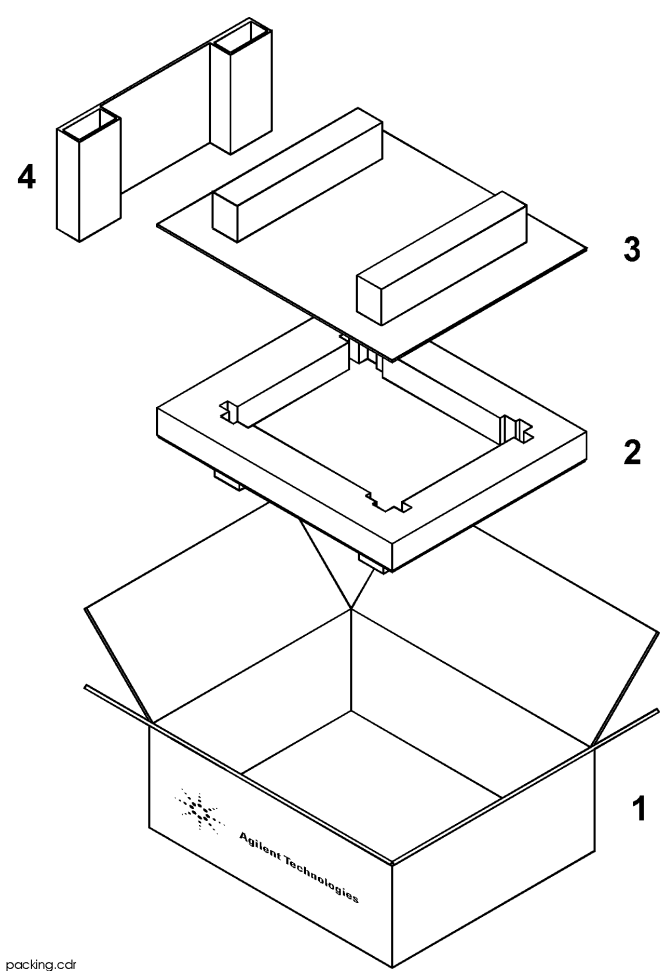

Figure 1-3 Packaging Materials for the 87130A Switch Driver
- If the shipping container is damaged, or the cushioning material shows signs of stress, notify the carrier as well as Agilent Technologies. Keep the shipping material for the carrier’s inspection. Refer to Figure 1-3.
- If the shipping container is damaged, or the cushioning material shows signs of stress, notify the carrier as well as Agilent Technologies. Keep the shipping material for the carrier's inspection. Refer to Figure 1-3.